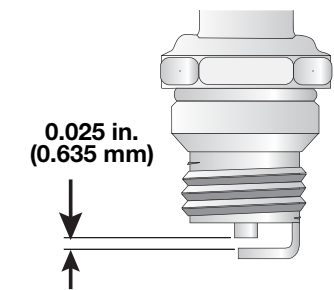

Fig. 31
4. Replace cracked, fouled or dirty spark plug. Set the air gap at **0.025 in. (0.635 mm)** using a feeler gauge (Fig. 31).